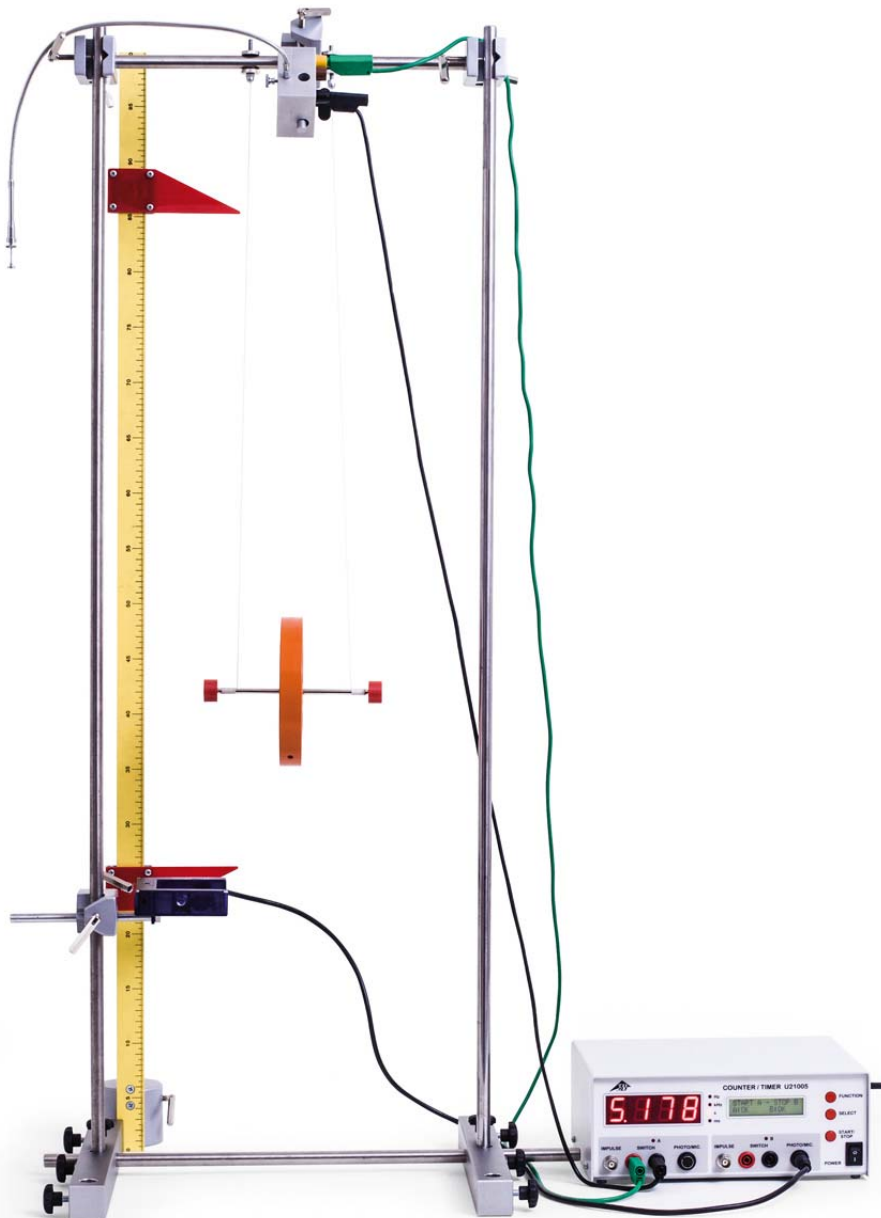

Fig. 1: Experiment set-up.
- Set up the experiment as shown in Fig. 1.
- Set up the ruler in the heavy stand base as shown in Fig. 1.